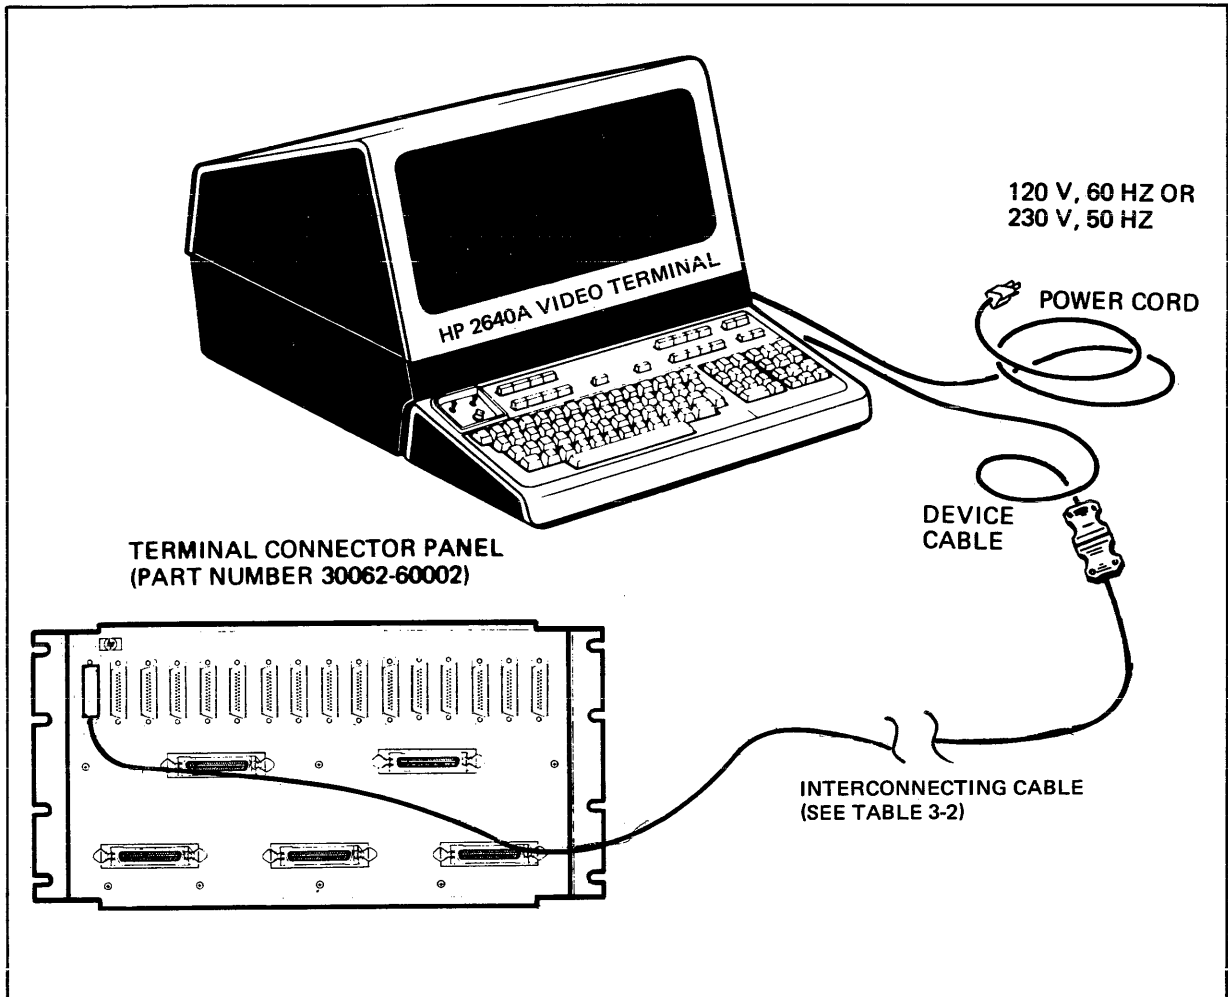
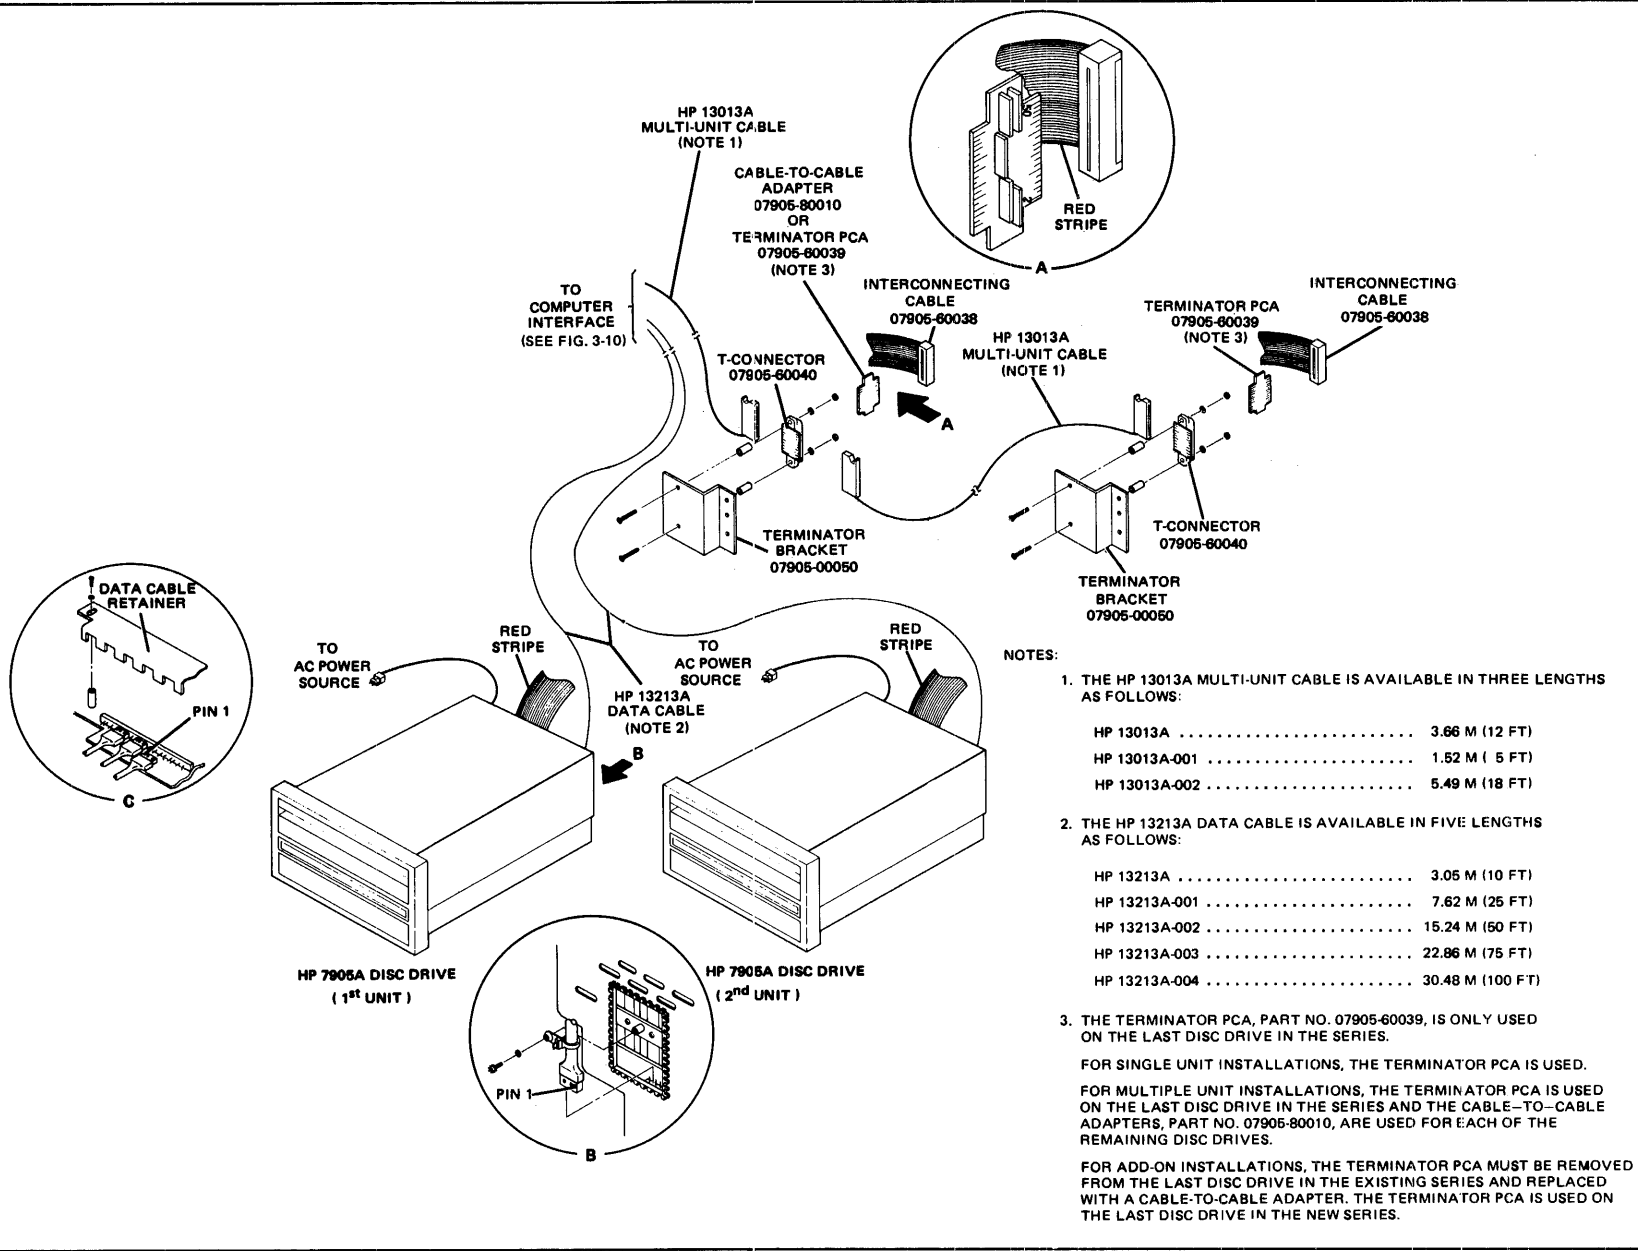

Figure 3-7. The HP 2640A System Console
Figure 3-11. Interconnecting HP 7905A Disc Drives
The HP 2640A Video Terminal is a free-standing cathode ray tube input/output device such as the HP 2640A Interactive Display Terminal. The Video Terminal is connected directly to an HP 3000 Series II Computer System through an HP 30032B Asynchronous 16-Channel Terminal Controller Subsystem as the System Console or as one of several remote user terminals. Remote user terminal connections are made through a Bell Telephone Model 103 Data Modem and an HP 30032B Option 001 or Option 002 Subsystem. See figures 3-7, 3-8, and 3-9.
All cables required for the three uses of the HP 2640A Video Terminal with a system are noted within figures 3-7, 3-8 and 3-9. Also, you should note the following restrictions:
If an HP 2640A is to be used as the System Console, its interface cable must be connected to jack J0 on an HP 30062A Connector Panel. If an HP 2640A is to be used as a remote user terminal, its interface cable must be connected to any other jack than J0 on an HP 30062A Connector Panel. In either case, uncoil the interface cable and connect equipment as shown in figure 3-7 or 3-8 or 3-9. Connectors on the back of the HP 2640A are keyed or notched to match the cable terminators that can be installed there. Connect the AC power cable into the peripheral AC power receptacle. Do not turn-ON AC power to the HP 2640A at this time.
3-13. INTERCONNECTING HP 7905A DISC DRIVES. Connecting an HP 7905A Disc Drive to the HP 3000 Series II Computer System Model 5 is a direct process for two cables. However, in multi-unit installations, two HP 7905A Drives must be "daisy-chained" from one part number 13037-60002 Device Controller PCA. Both methods are explained by figure 3-11 and these steps:
1. If they aren't already there, connect one end of an HP 13031A Multi-Unit Cable and an HP 13213A Data Cable to the part number 13037-60002 Device Controller PCA. Refer to the SYSTEM SUPPORT LOG and to figure 3-7 for the location of the Device Controller PCA. Also note the Data Cable Retainer shown in Detail C of figure 3-11.
4. Insert the Terminator PCA, and if step 2 above was used, the Cable-to-Cable Adapter into a part number 07905-60040 T-Connector. Orient the parts as shown in figure 3-11.
5. Connect one end of the HP 13031A Multi-Unit Cable already connected to the part number 13037-60002 Device Controller PCA to the right edge (as viewed from the rear) of the T-Connector, as shown in figure 3-11.
6. For a two Drive installation, connect one end of the other HP 13031A Multi-Unit Cable to the left edge (as seen from the rear) of the T-Connector, as shown in figure 3-11.
8. Connect the one or two HP 13213A Data Cables with cable clamp to connector A7P4 at the rear of the Drive(s) through the opening shown in figure 3-11 detail B. Secure the cable clamp as shown.